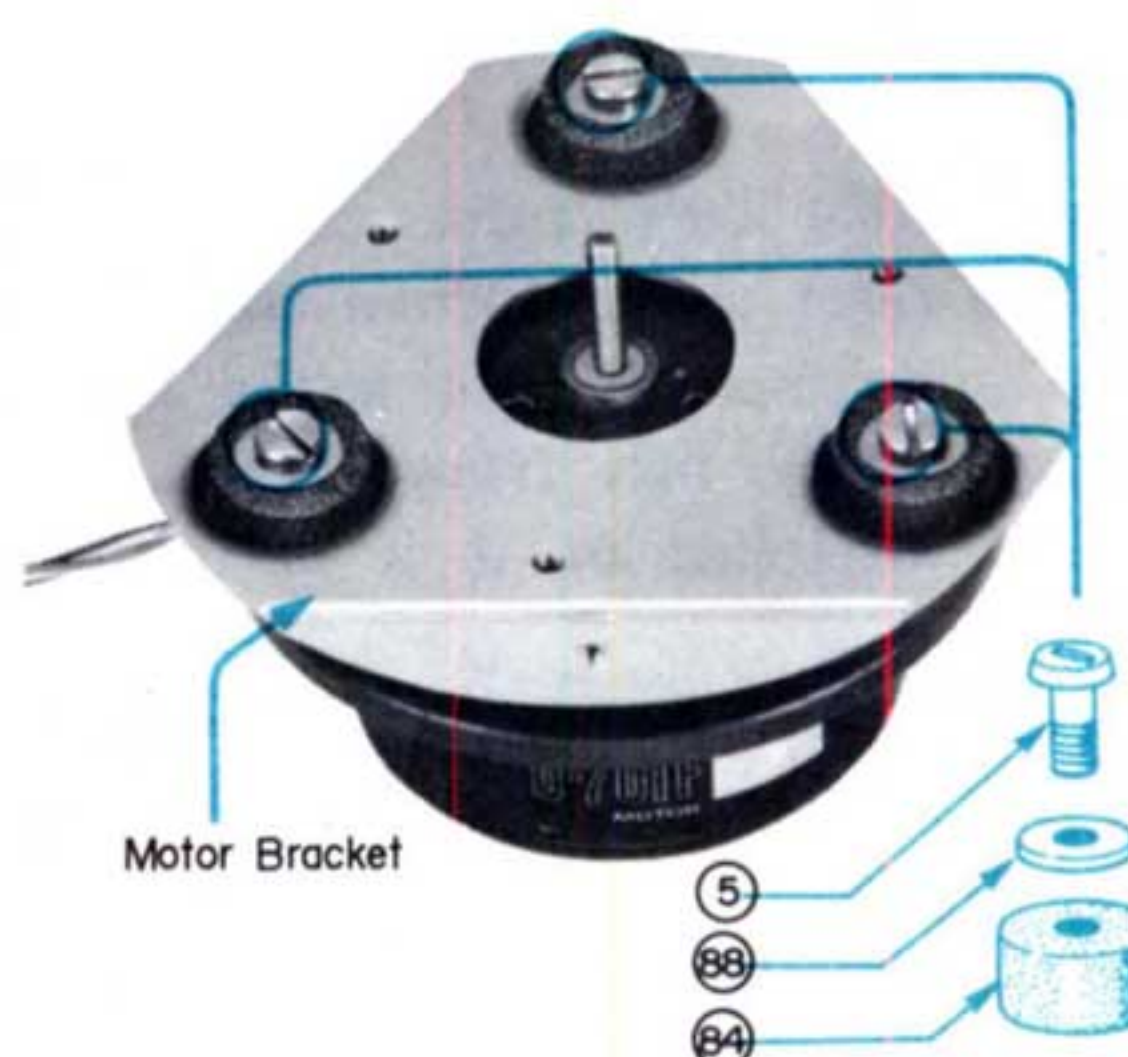

Fig. 2-13 Removal of the Motor
5. Remove the three screws from the motor bracket. This frees motor. See Fig. 2-13.